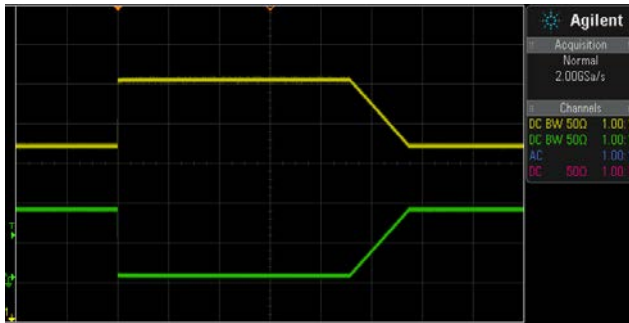

Figure 5 : Example 2 Result
- j. The outputs from J2 and J8 will be displayed as shown in Figure 5